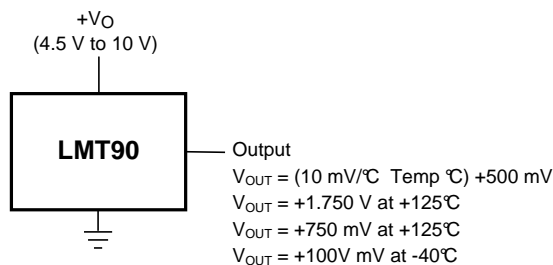

Figure 2. Full-Range Centigrade Temperature Sensor (–40°C to +125°C)
Unless otherwise noted, these specifications apply for $V_S = +5 V_{DC}$ and $I_{LOAD} = +0.5 \mu A$, in the circuit of Figure 2. **Boldface limits apply for the specified $T_A = T_J = T_{MIN}$ to T_{MAX}** ; all other limits $T_A = T_J = +25^\circ C$, unless otherwise noted.
- (1) Limits are specific to TI's AOQL (Average Outgoing Quality Level).
- (2) Accuracy is defined as the error between the output voltage and $10 \text{ mV}/^\circ C$ times the device's case temperature plus 500 mV, at specified conditions of voltage, current, and temperature (expressed in $^\circ C$).
- (3) Nonlinearity is defined as the deviation of the output-voltage-versus-temperature curve from the best-fit straight line, over the device's rated temperature range.
- (4) Regulation is measured at constant junction temperature, using pulse testing with a low duty cycle. Changes in output due to heating effects can be computed by multiplying the internal dissipation by the thermal resistance.
- (5) Quiescent current is defined in the circuit of Figure 2.
- (6) For best long-term stability, any precision circuit will give best results if the unit is aged at a warm temperature, and/or temperature cycled for at least 46 hours before long-term life test begins. This is especially true when a small (Surface-Mount) part is wave-soldered; allow time for stress relaxation to occur. The majority of the drift will occur in the first 1000 hours at elevated temperatures. The drift after 1000 hours will not continue at the first 1000 hour rate.